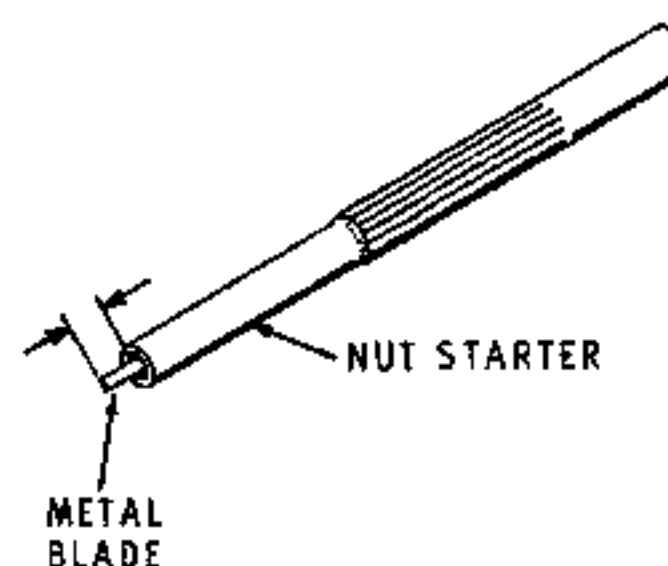

Figure 3
- () Locate the 1/8" x 1" metal strip. This is the alignment tool tip. With a pair of pliers, insert the tip into the small end of the nut starter so that it extends 1/8" from the end of the starter as shown in Figure 3. Use this tool for all calibration adjustments.